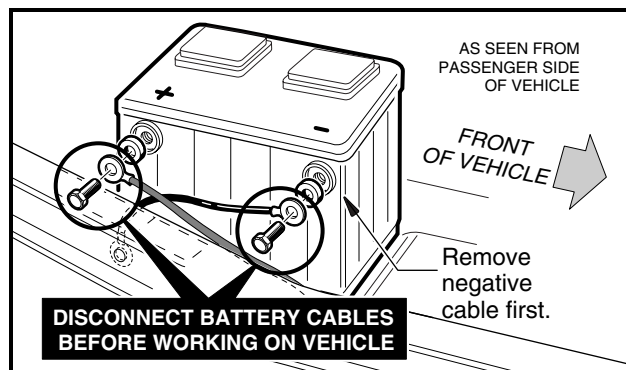

Figure 1 Battery Cable Removal
- **Disconnect battery cables, negative (-) cable first (Figure 1).**